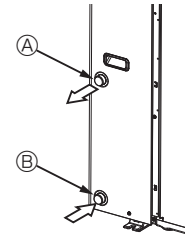

Fig. 4-1
4.1. Water piping connection (Fig. 4-1)
- Inlet and outlet pipes position is shown on the Fig. 4-1.
[Fig. 4-1]